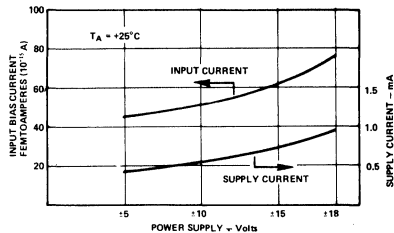

Figure 8. Input Bias Current and Supply Current Versus Supply Voltage
- The heat dissipation can be reduced initially by careful investigation of the application. First, if it is possible to reduce the required power supplies, this should be done since internal power consumption contributes the largest component of self-heating. To minimize this effect, the quiescent current of the AD515 has been reduced to a level much lower than that of any other electrometer-grade device, but additional performance improvement can be gained by lowering the supply voltages, to ±5 volts if possible. The effects of this are shown in Figure 8, which shows typical input bias current and quiescent current versus supply voltage.